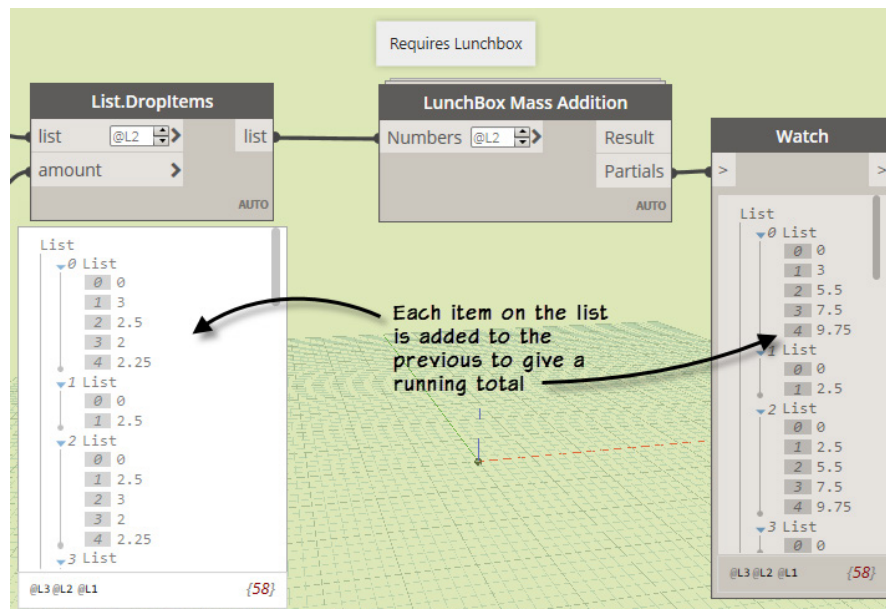

Figure 54
34. Run the graph (see Figure 54).